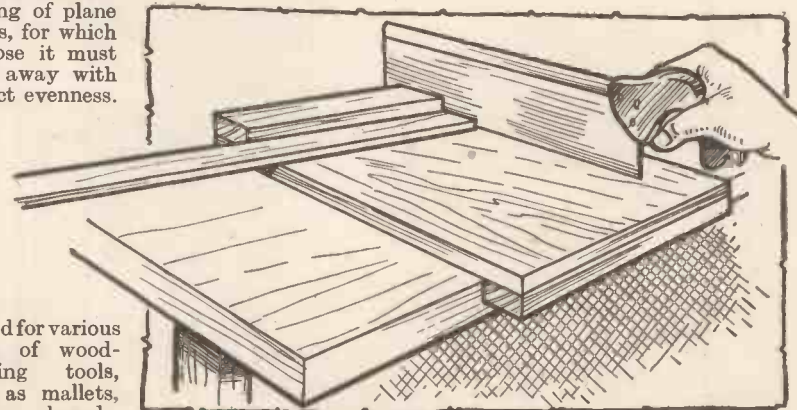

Fig. 3.—This sketch shows how a bench hook is used.
**Bench Hook.**—Sometimes called a sawing board. Consists of a flat board of beech to which a lath is attached to each end on opposite sides. The hook thus fits on the edge of the bench and is used to hold boards of wood whilst sawing. (See Fig. 3.)